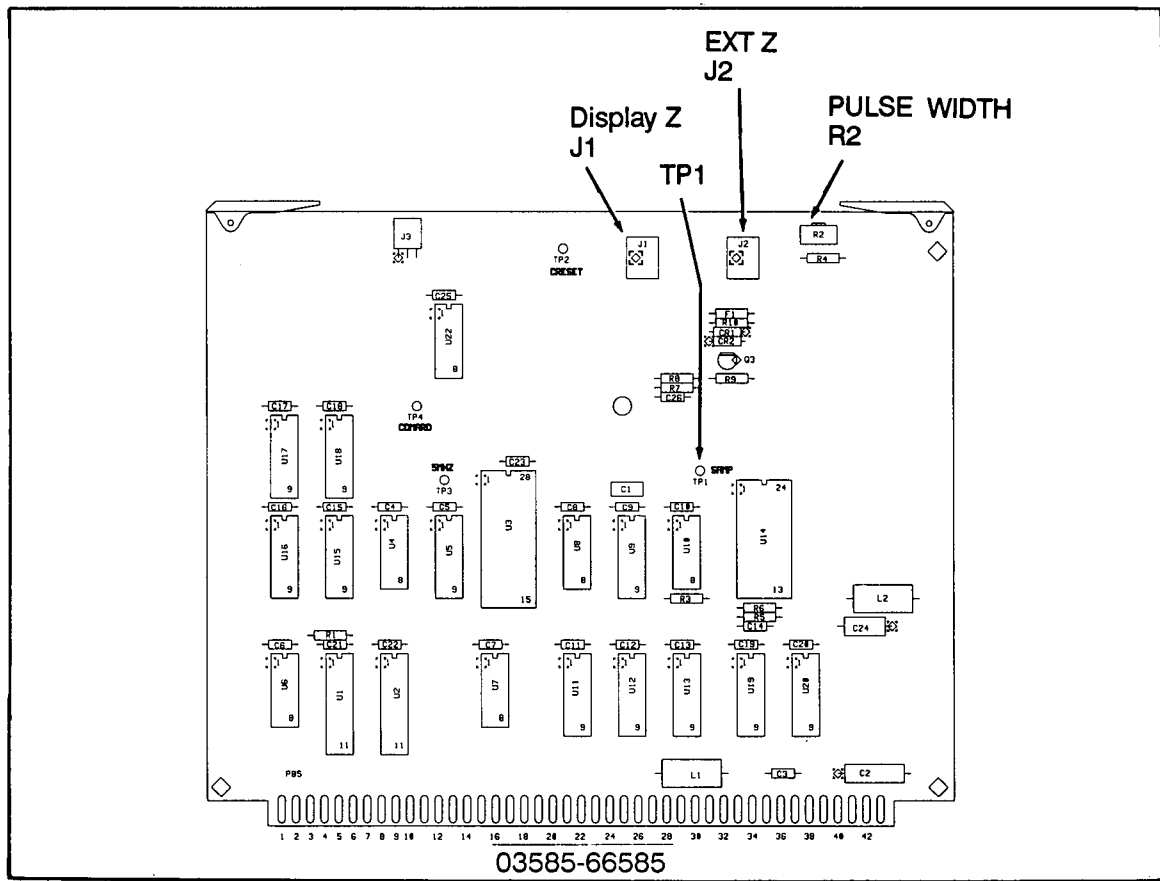
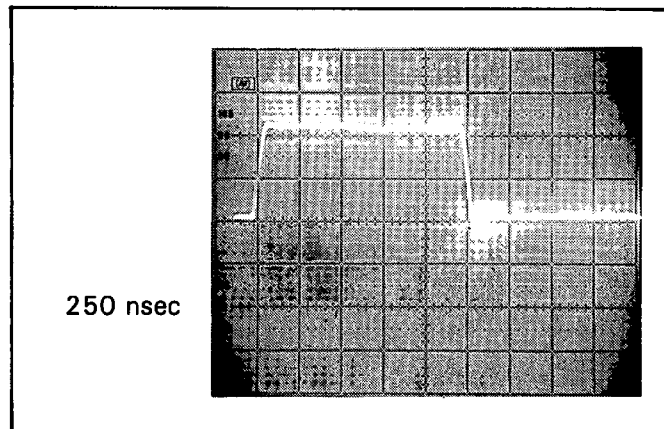

Figure 5-8. Display Processor Board (A85)
Figure 5-9 Sample Pulse Generator Output
- x. Connect a 10:1 scope probe to A85TP1 (See Figure 5-8) and adjust A85R2 for a pulse width of roughly 250 nsec between the centers of the rising and falling edges. (See Figure 5-9)